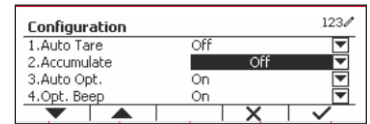

Figure 52
2. Select the list item and press the softkey corresponding to the **⌵** icon to change the setting as desired. (See Figure 52)